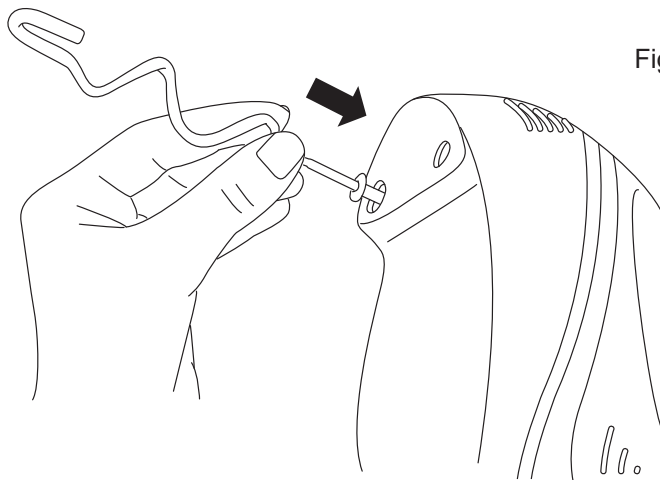

Fig.1.2
- Insertar las varillas amasadoras en los orificios del cuerpo motor presionando hasta escuchar click (Fig.1.2). Las varillas amasadoras no son iguales. Colocar la varilla con arandela en el orificio grande. No pueden colocarse de forma inversa.
- Insert the dough hooks into the orifices in the body of the motor pressing them in until you hear a click (Fig.1.2). The dough hooks are not the same. Place the dough hook with the washer in the large orifice. They cannot be fitted inversely.